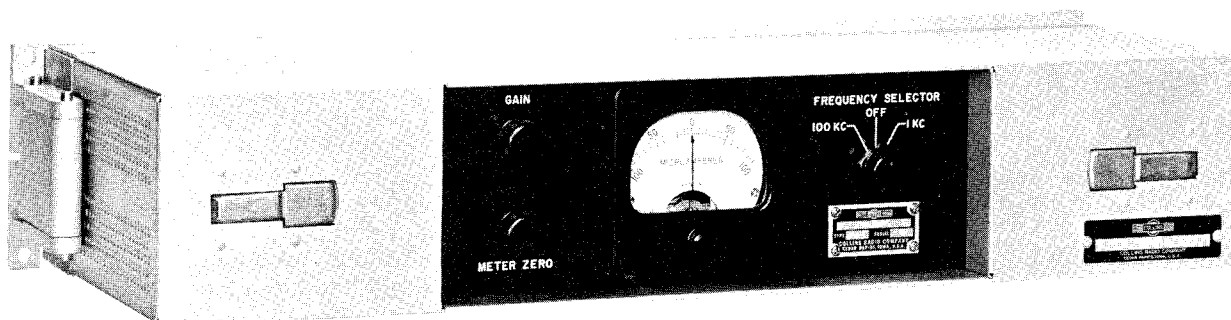

Figure 1-7. Signal Comparator CM-126/UR
g. SIGNAL COMPARATOR CM-126/UR. - (Refer to figure 1-7.) The CM-126/UR is used to compare a reference oscillator signal with a signal from an external frequency standard. Two different methods of comparison may be used. In one method, a 100-kc reference oscillator signal is compared with a 100-kc external standard, such as the Navy AN/URQ-9; this may be done without interrupting normal operation. The other method compares a 1-kc output from the frequency standard with a received signal (heterodyned to 1 kc) from a netting station or a transmitted frequency standard such as WWV; this method results in interruption of normal operation.